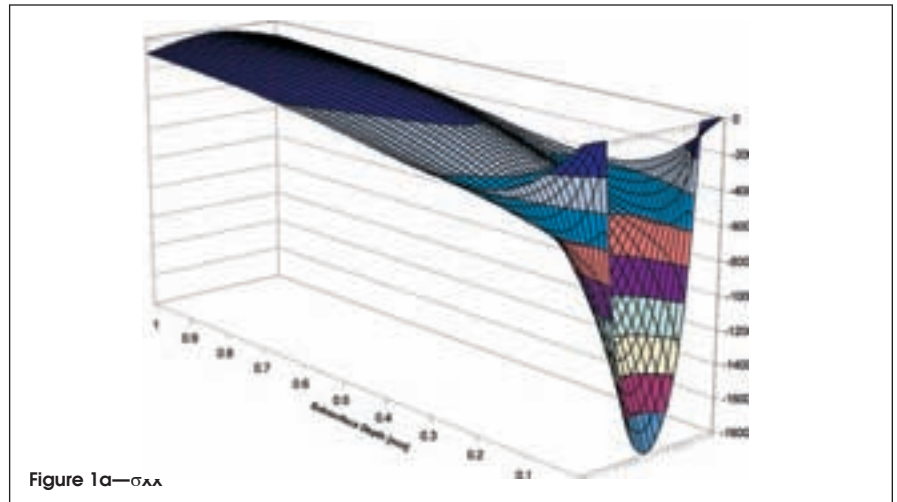

Figure 1a— $\sigma_{xx}$
**The three-dimensional sub-surface stress field.** In order to understand the failure of material under RCF conditions, it is important to understand the complex three-dimensional stress field caused by elastic deformation of the contact zone. The stress field (in terms of maximum contact pressure) is calculated in real arithmetic using a software package (Refs. 5, 6). Figure 1 shows as an example the three dimensional stress field under line contact in the x-direction ( $\sigma_{xx}$  is shown in Fig. 1a) and the shear stress ( $\tau_{xy}$  is shown in Fig. 1b) calculated in the contact zone of the ZF-RCF test rig using the following parameters: